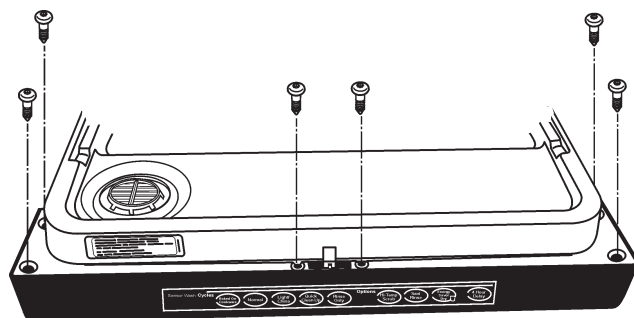

Fig. 3-1
1. Remove the six (6) screws securing the control panel to the door frame. (Fig. 3-1)